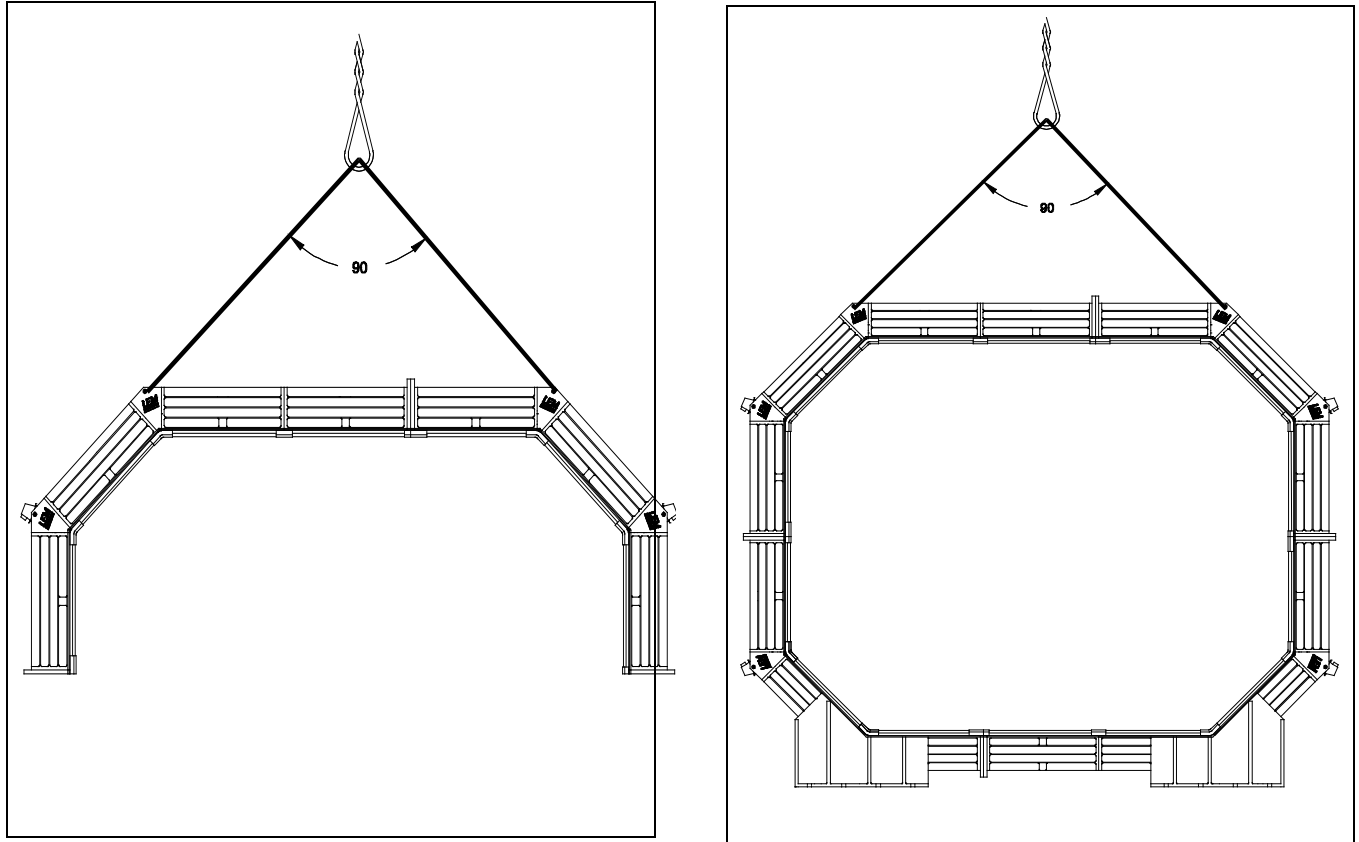

Figure 5.4 Setting The Upper Head Half On The Lower Half.
- 5.) Set the upper half onto the lower half as shown in figure 5.4.